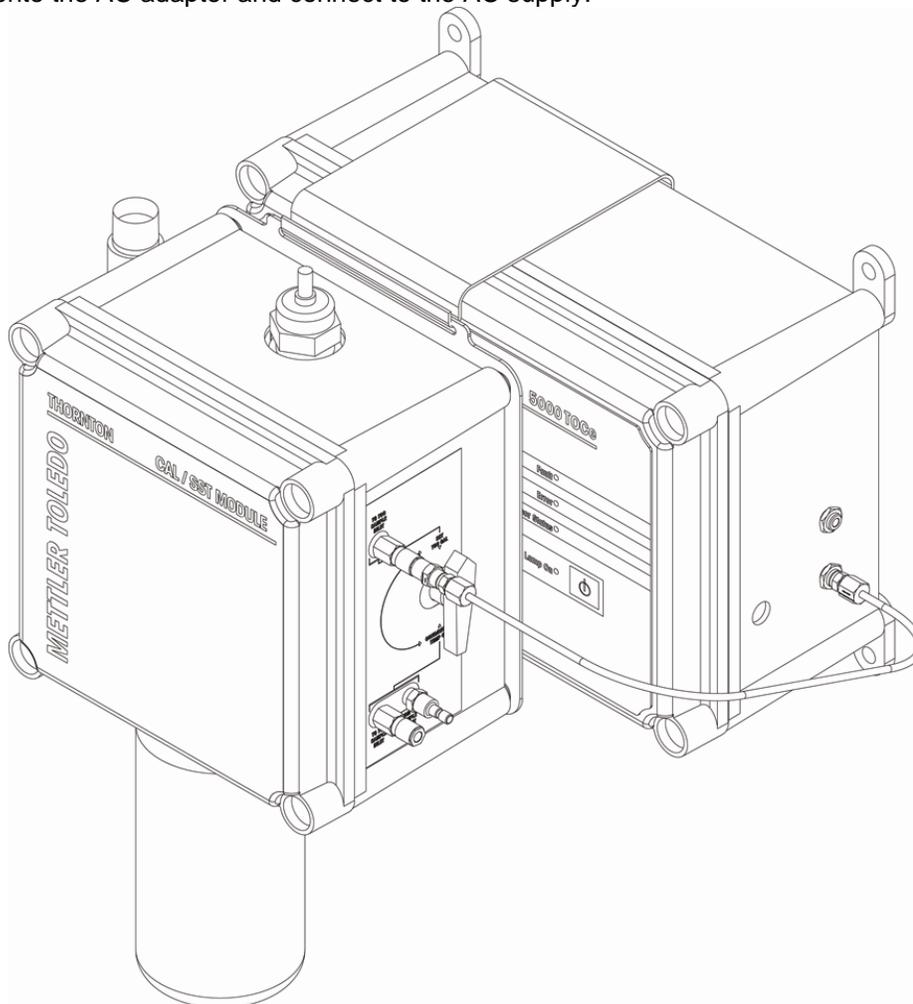

Figure 1. CAL/SST Pump Module Installation and Setup
1. Remove the mounting bracket from the carrying case and place on top of the 5000TOCe Sensor to be tested. See Figure 1.
Set selector valve on CAL/SST pump module to “SST/TOC CAL” position. Figure 1 shows the proper installation of the CAL/SST pump module.